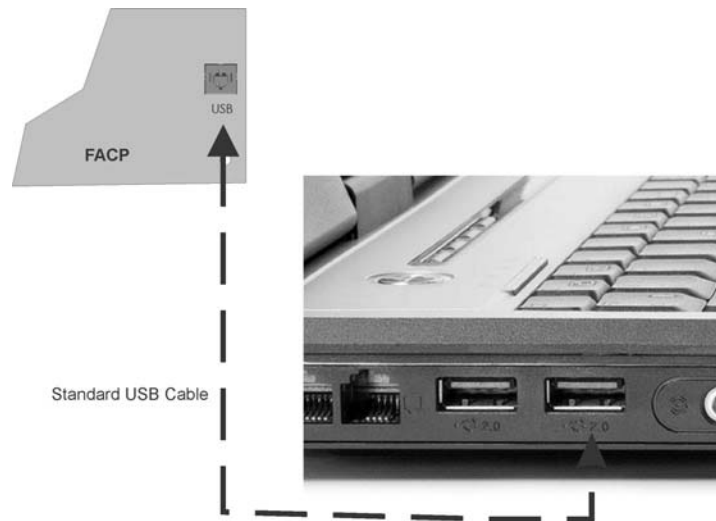

Figure 11-8 USB Cable Connections
2. Connect the PC to the FACP USB port using a standard USB cable. ECS-NVCM will use the USB on the FACP (See Figure 11-8). ECS-VCM will use the USB port on the ECS-VCM.